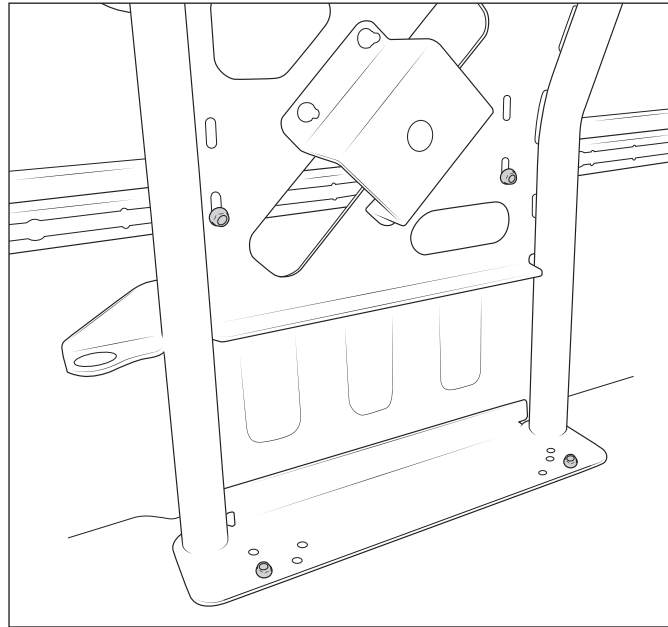

Figure 12
11. Place the Spacers and Tire Carrier into position on the two bed floor bolts and two T-Track bolts (fig. 12). Install M10 nuts on all four bolts.